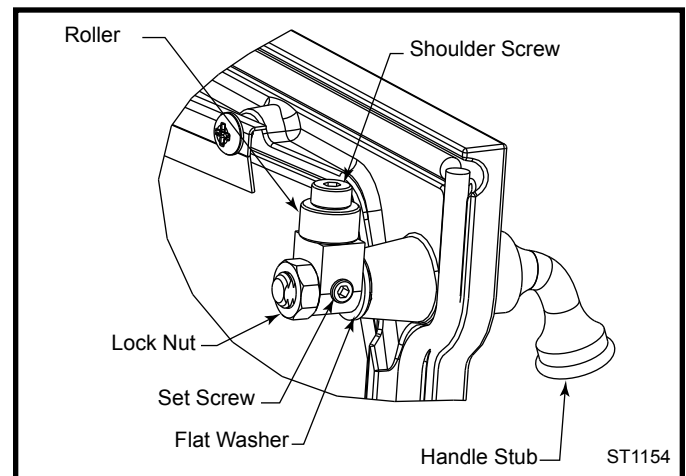

Fig. 13 Rotate pawl and/or remove flat washer to adjust latch.
1. Remove and retain the lock nut with a $\frac{9}{16}$ " wrench. (Fig. 13)